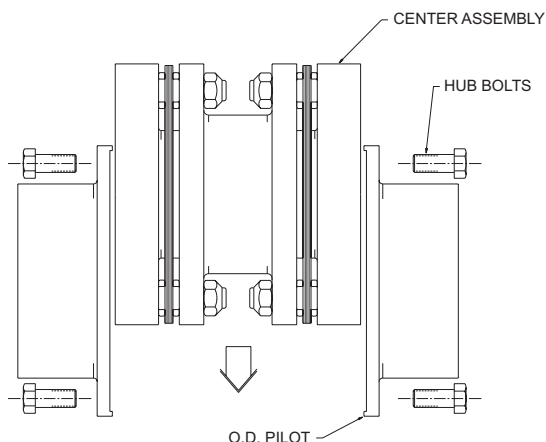

Figure 5. Installing center section.
4.3 Tighten them evenly and collapse the disc packs equally, only enough to allow the center assembly to drop into place (see Figure 5).